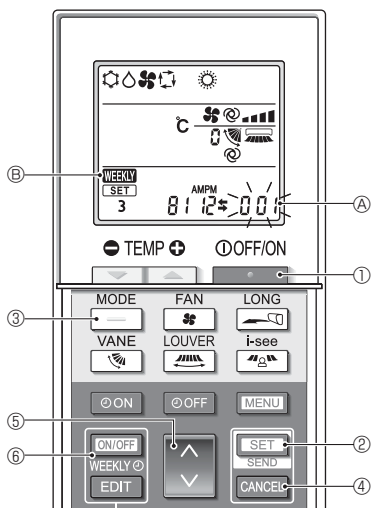

Fig. 4-9
- Press the **MENU** button ②.
4.9.8. How to disable Auto mode operation (Fig. 4-9)
1. Press the **STOP** button ① to stop the air conditioner.
- If the weekly timer is enabled, press the **ON/OFF WEEKLY** button ⑥ to disable the timer. (**WEEKLY** ⑩ disappears.)
2. Press the **SET** button ② for 5 seconds.
- The unit enters the function setting mode. (The group model setting number ④ blinks.)
3. Press the **DOWN** button ④.
4. Completing the settings (Fig. 4-9)
- Press the **SET** button ② for 5 seconds.